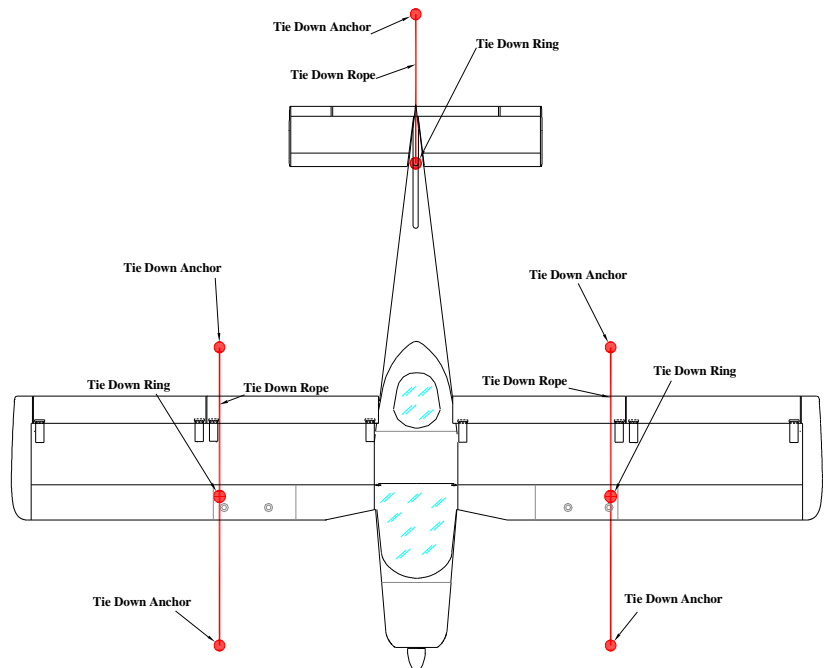

Fig. 8-1. CABLE POSITIONING
5. Secure tie-down ropes to the wing tie-down rings and to the tail ring at approximately 45-degree angles to the ground, in longitudinal direction (see Fig.8-1).